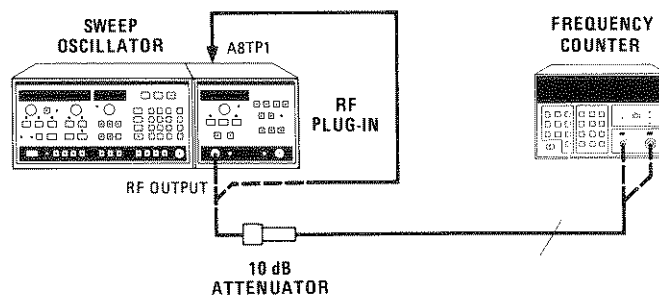

Figure 5-10. Test Setup for Frequency Accuracy Adjustments
YO Driver Board adjustments should be avoided if possible. Set up equipment as shown in Figure 5-10 and perform step 25 in Paragraph 5-17 to check frequency accuracy and sweep linearity across the band. If frequencies are within ± 15 MHz tolerance, do not make these YO Driver Board Adjustments.
1. Press 8350A INSTR PRESET, set STOP frequency to 2 GHz, and press 83525A AMPTD MKR. Connect Frequency Counter to A8TP1 (Figures 5-10 and 5-11) and check that output frequency is 50.000 MHz \pm 250 Hz. If not, adjust A8C4 50 MHz Oscillator for correct frequency. If necessary, select A8C3 for correct adjustment range.
2. Connect equipment as shown in Figure 5-10 with frequency counter and 10 dB attenuator connected to RF OUTPUT.